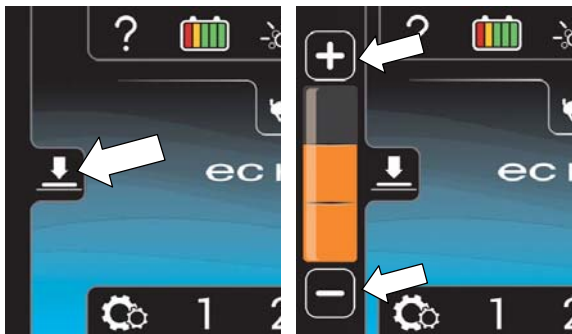

FIG. 48
3.  Press the down pressure icon to display the down pressure scale (Figure 48). Press the (+) symbol to increase down pressure. Press the (-) symbol to decrease the down pressure.